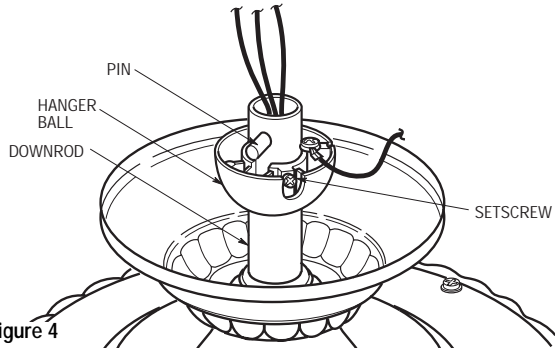

Figure 4
- 5. Reinstall the hanger ball (Figure 4) on the downrod as follows. Route the three 80" motor leads through the hanger ball. Position the pin through the two holes in the downrod and align the hanger ball so the pin is captured in the groove in the top of the hanger ball. Pull the hanger ball up tight against the pin and securely tighten the setscrew in the hanger ball. A loose setscrew could create fan wobble.